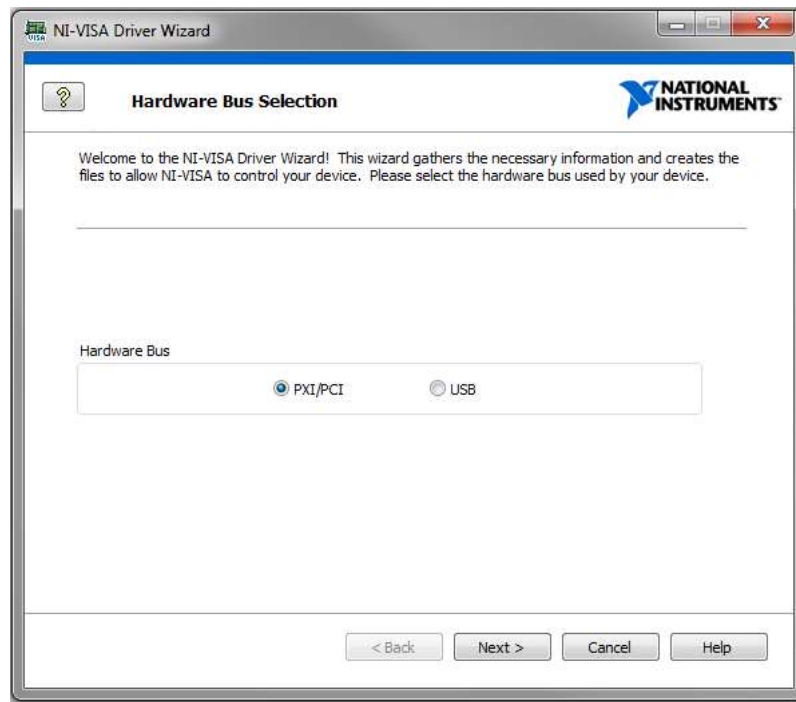

Figure 1. NI-VISA Driver Wizard Hardware Bus Selection Window
1. To open the NI-VISA Driver Wizard, select **Start»All Programs»National Instruments»VISA»Driver Wizard**. Figure 1 shows the open screen.